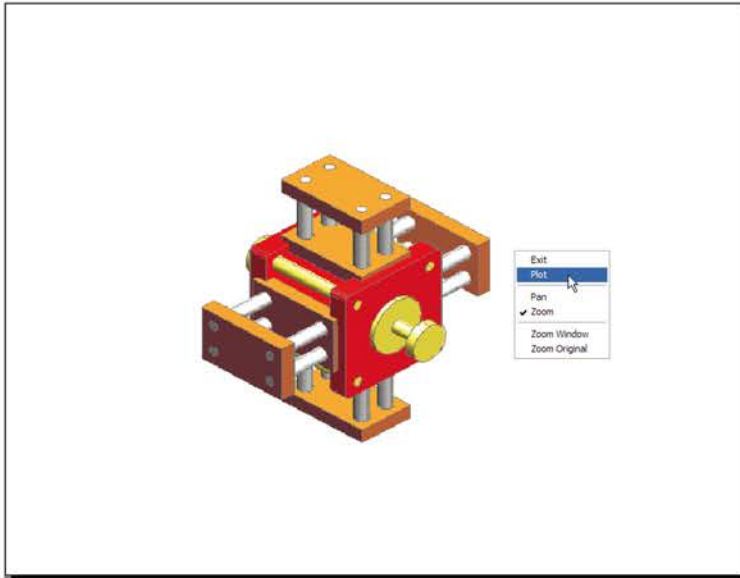

Fig. 16.36 First example – Print Preview – printing a single view
FIRST EXAMPLE – PRINTING (FIG. 16.36)
3. Click the **Preview** button of the dialog and, if the preview is OK (Fig. 16.36), *right-click* and in the right-click menu which appears, *click Plot*. The drawing plots produce the necessary “hardcopy”.